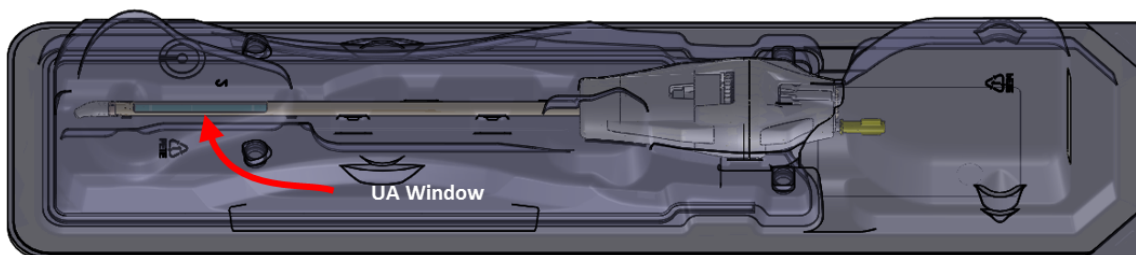

Figure 13: Examine the UA window for air bubbles
- d. When the purge cycle is complete, look through the package and carefully inspect the UA window for bubbles while raising and lowering the tip of the UA (*Figure 13*). There should be **no** bubbles of **any** size. If you see bubbles, turn on the pump and gently tap the package-end close to the UA window to dislodge them. If you still see bubbles, repeat this step until all bubbles have been eliminated.